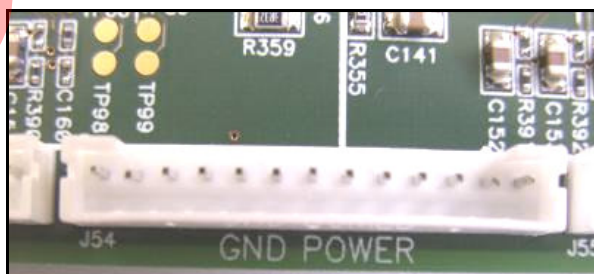

Figure 17: LEDs Connectors
2. GND POWER Connector (see Figure 17)